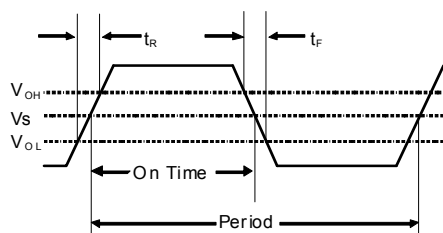
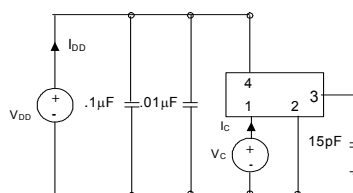

Figure 5. Output Waveform
Figure 6. Typical Output Test Conditions (25±5°C)
2. Figure 5 defines these parameters. Figure 6 illustrates the operating conditions under which parameters are tested/specified.